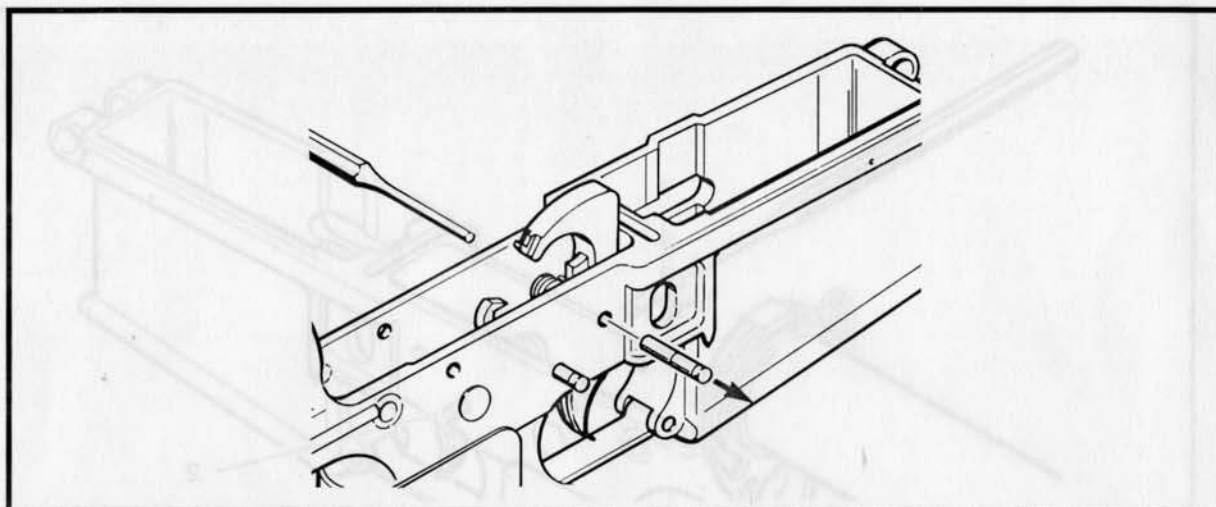

Figure 3-2-46 Removing the Hammer Pin
- (1) Push out the hammer pin, from the left side, with a suitable punch. See Figure 3-2-46;
- (2) Take control of the hammer and remove the punch;
- (3) Remove the hammer assembly; and
- (4) Carefully remove the hammer spring from the hammer by spreading out one side at a time to prevent distortion of the spring.